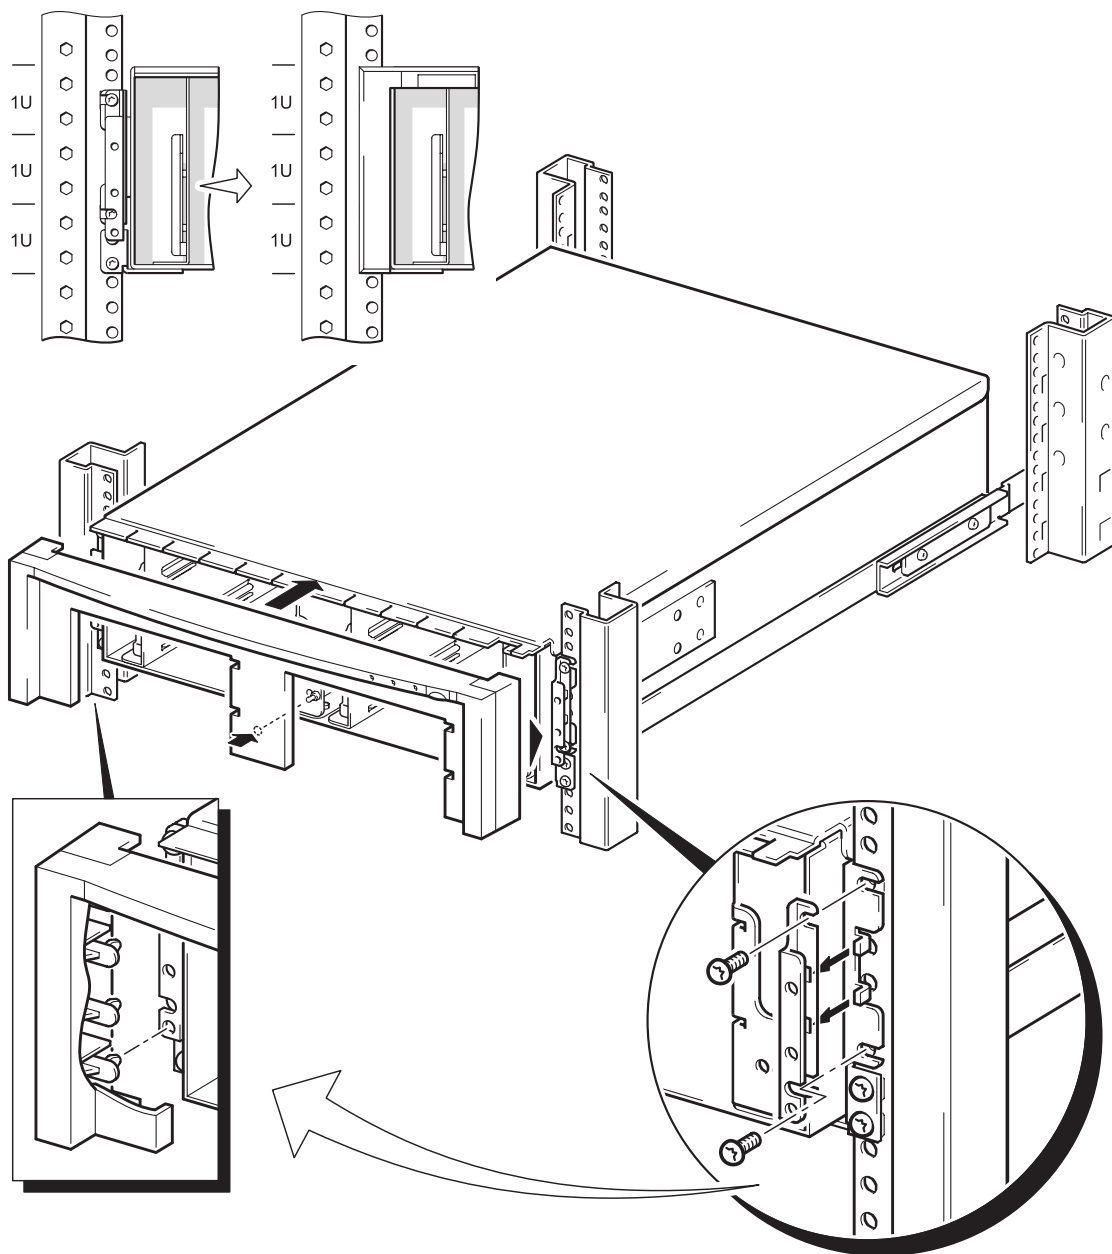

Figure 5a: Install the front bezel (round hole profile)
- 2 Turn a bezel bracket so that the stamped letter is correctly orientated and is facing the front, and the indents face outward towards the side of the rack as shown on Figure 5a.
The two rectangular holes on the bezel bracket hang on the two teeth of the side mounting brackets, as shown in Figure 5a.